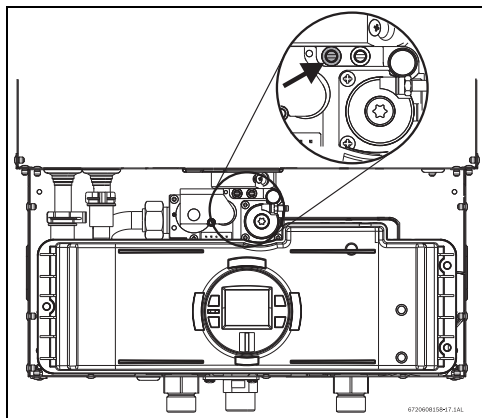

Fig. 38 Gas pressure test port (left tapping)
- ▶ Remove front cover and locate inlet gas pressure test port (see fig. 38).